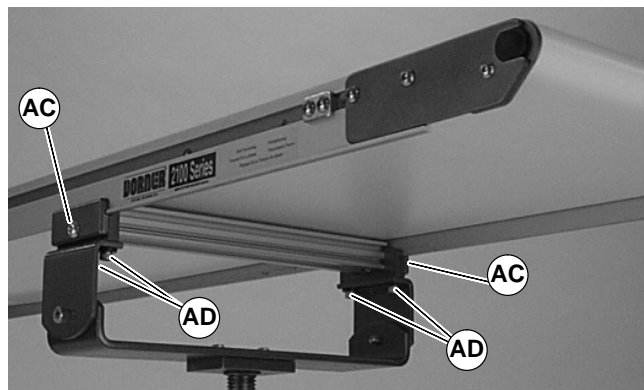

Figure 11
3. Attach clamp plates on each side of conveyor (Figure 11). Tighten the screws (AC) to 80 in-lb (9 Nm).